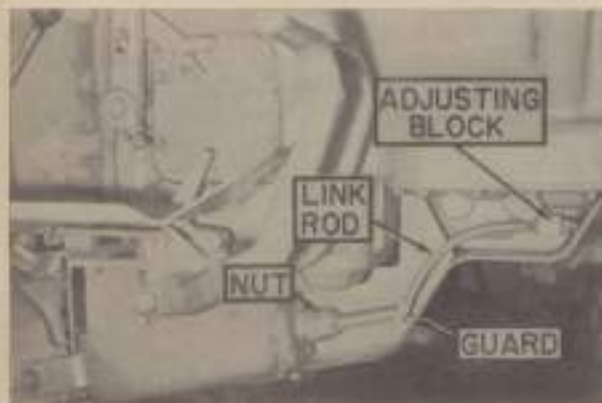

Fig. 147 — Hydraulic pump control linkage and adjustments. See text.
**233. R&R HYDRAULIC PUMP.** The hydraulic pump can be removed as follows: Remove the linkage guard (See Fig. 147) and "Traction-Booster" link rod. Drain the hydraulic reservoir; then, unbolt and remove the pump cover and linkage housing (9—Fig. 148) from bottom of torque housing. Compress the linkage return spring (16) by moving the "Traction-Booster" lever to top of quadrant and by prying pivot bearing (15) forward until a nail can be inserted in the